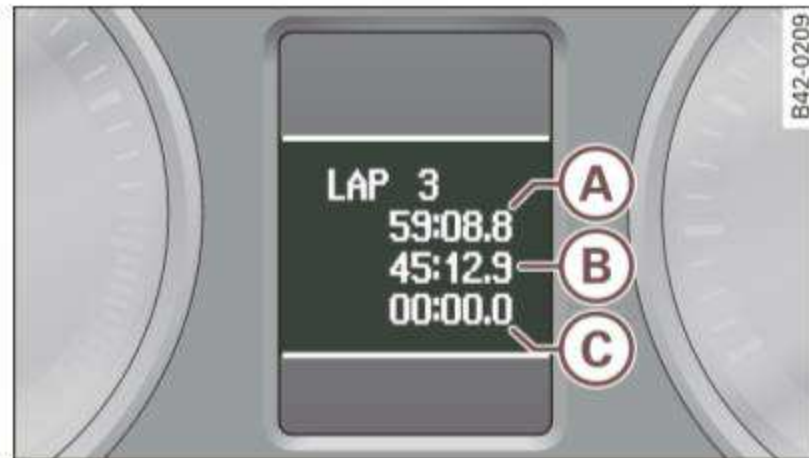

Fig. 21 Display: Lap 2 is saved
The current lap time is displayed in the bottom line of the display ③ ⇒ fig. 21.
After being saved, the last recorded lap time moves from the lower to the next higher line on the display ② ⇒ fig. 21. The lap time before the last one also moves up one line ①. The lowest line ③ identifies the newly started lap time. ■
- In addition to the total results ⇒ fig. 23, only the last two lap times ⇒ *page 27*, fig. 21 can be displayed in the lap timer.